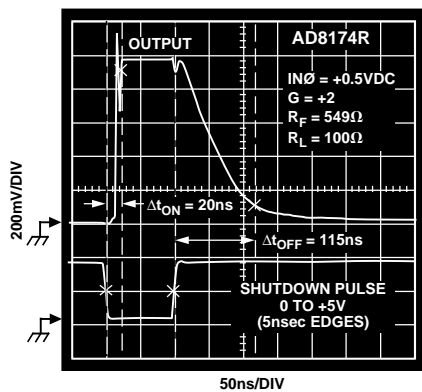

Figure 6. Shutdown Switching Characteristics
- 3AD8174 only.  $\overline{\text{ENABLE}}$  pin is grounded. Shutdown (SD) pin is driven with 0 V to +5 V pulse (5 ns rise and fall times). State of A0 and A1 logic inputs determines which channel is activated (i.e., if A0 = Logic 1 and A1 = Logic 0, then IN1 input is selected). Set IN0 (or IN2) = +0.5 V dc, IN1 (or IN3) = -0.5 V dc, and measure transition time from 50% of SD pulse (+2.5 V) to 90% of the total output voltage change. In Figure 6, ΔtOFF is the shutdown assert time, ΔtON is the shutdown release time.